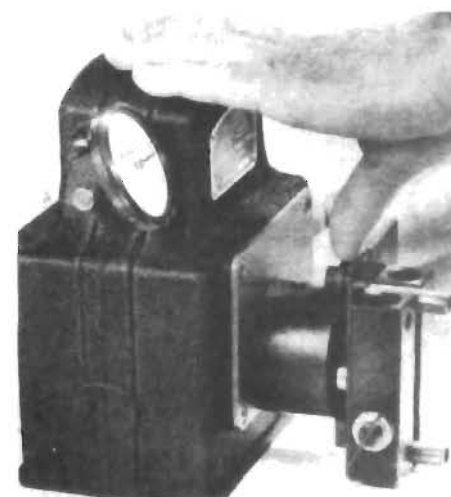

Fig. 25
4. Expand gaging points by turning adjusting knob counter-clockwise until gaging points just contact setting blocks, as indicated by a slight movement of the dial indicator hand. While using thumb on knurled roller to rock the setting fixture slightly clockwise and then counter-clockwise, further expand gaging points until the maximum counter-clockwise swing of indicator hand reaches approximately the 3 o'clock position. (Fig. 25).